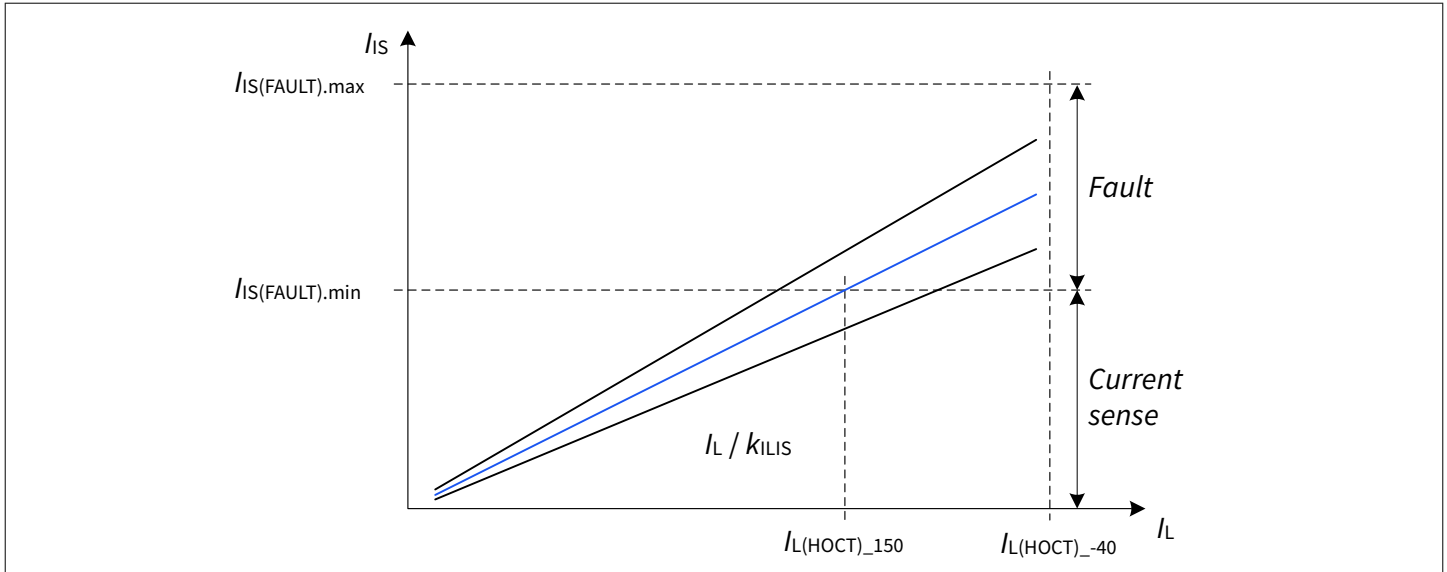

Figure 46 Current sense behavior - overview
- No fault (as described in Chapter 8.3) is present or was latched (see Figure 46 for more details)
Figure 46 shows the relation between $I_{IS} = I_L / k_{ILIS}$ and $I_{IS(FAULT)}$.